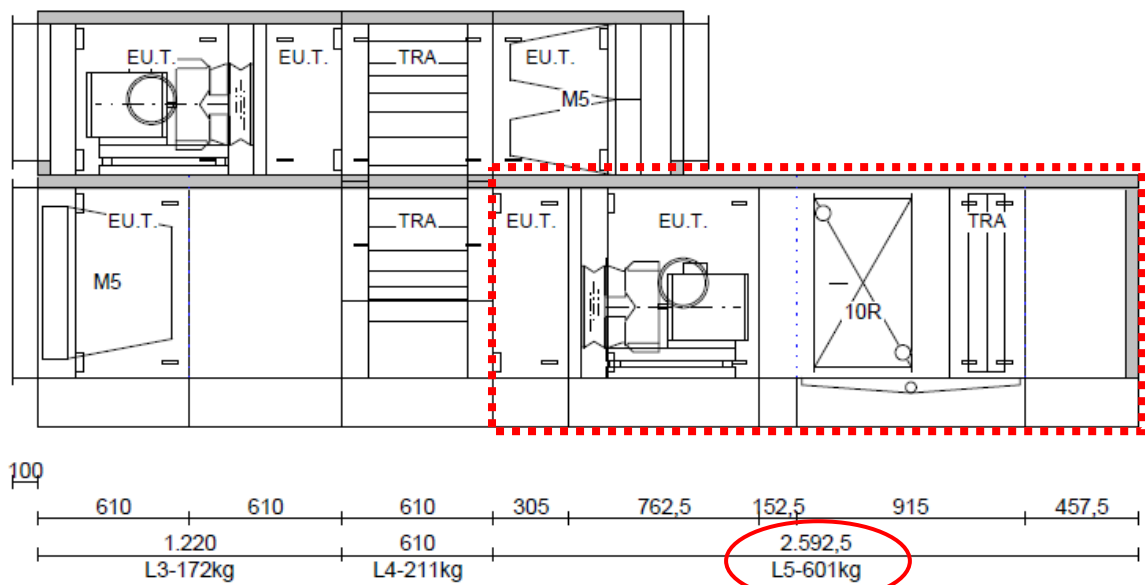

Figure 9: AHU section drawing with weight details
- Size and weight of the sections are indicated on the AHU drawing, see **Figure 9**.
The weight of single delivery sections is shown in the attached drawing (on each delivery section). The delivery sections are marked with L1, L2, L3, ... on the drawing and with the same number on the section itself. Example, refer to **Figure 9**: Delivery section L5 = 601 kg